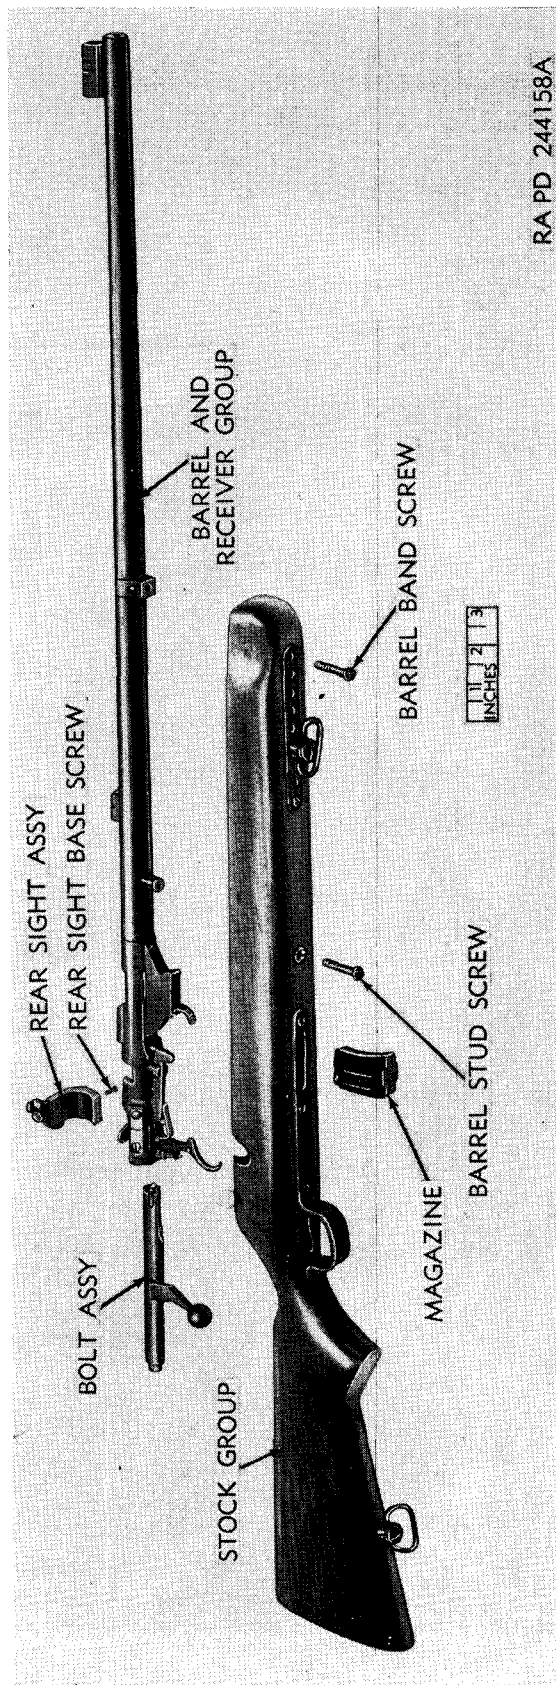

Figure 39. Stevens rifle M416-2T—Components.
assembly, barrel and receiver group, and stock group (fig. 39).
e. *Stock Group* (fig. 39). The stock group houses the barrel and receiver group to protect the operators from heated barrel and receiver after prolonged rapid firing. It serves as a means of attaching the sling to the rifle. The stock group consists of the swivels, swivel plate, trigger guard, barrel stud screw escutcheon, swivel escutcheon, butt plate, and their screws.
(fig. 39)
e. *Remove Barrel and Receiver Group* (fig. 38). Remove the barrel band screw (fig. 39) from the foremost hole of the front swivel plate, located in the stock, and from the barrel band nut hole on the barrel. Remove the barrel stud screw (fig. 39), located just forward of the trigger guard on the bottom of the stock. The removal of these two screws will permit the barrel and receiver group to be lifted out of the top of the stock.
a. *General.* The magazine is authorized for issue to organizational maintenance personnel; however, this is the only component of the rifle authorized. Maintenance of these weapons will be limited to that required by cleaning operations described in paragraph 49 and by lubrication operations described in paragraph 44. Inspection is for the purpose of determining the condition of the rifle and whether repairs and adjustments are required to insure its serviceability. When disassembling the rifle for cleaning purposes, inspect the rifle as described in (1) through (3) below.
- (1) Place the barrel and receiver group in place in its cutout on the top of the stock. Make certain the barrel band is alined with its slot in the front of the stock, with the barrel band nut facing down.
- (2) Insert barrel band screw (fig. 39) through the foremost hole in the swivel plate and tighten the screw to the barrel band nut attached to the barrel.
- (3) Insert the barrel stud screw (fig. 39) through its hole on the bottom of the stock just forward of the trigger guard and tighten the screw to the barrel stud.